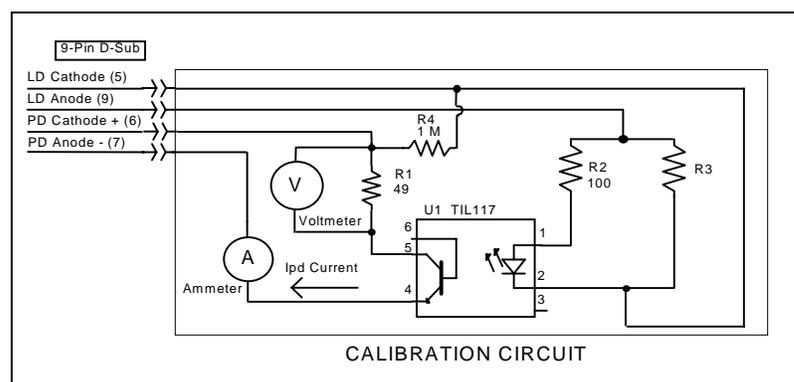

Figure 5.1 I_{PD} Calibration Circuit
It will be necessary to connect various loads and circuits to the outputs of the module for the calibration procedure. The devices required for most of the calibration loads are listed in Table 5.2. A schematic is shown in Figure 5.1 for the photodiode calibration circuit, with the required components listed in Table 5.3.
See schematic in Figure 5.1
- 1 With the output off, connect the IPD calibration circuit, Figure 5.1, to the appropriate laser connector.
- 2 Connect an ammeter with at least 5000 μA range and at least $\pm 0.1 \mu\text{A}$ accuracy as shown in Figure 5.1. This ammeter is in series with the Photodiode Anode input to the module, and directly measures the photodiode current.